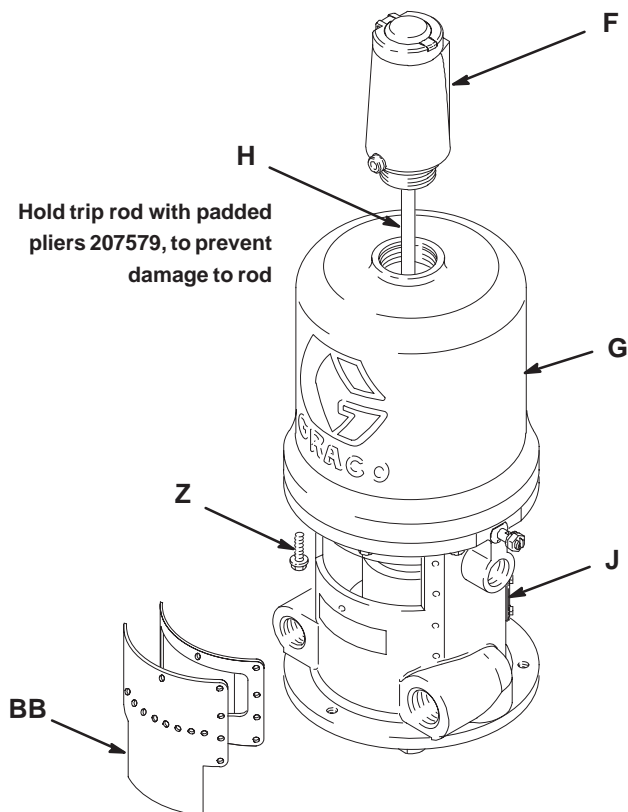

Fig. 2
To reseat the air transfer valves and restart a stalled air motor, relieve the air supply pressure to the motor by closing the bleed-type master air valve. If the air transfer valves fail to reseat, screw the stroke adjuster (F) out of the cylinder (G), pull up on the trip rod (H) and screw the cap nut back into the cylinder. See Fig. 2. Be sure the air supply pressure is less than 180 psi (1.2 MPa, 12 bar) before opening the bleed-type master air valve.
3. Manually push up on the piston rod to move the piston assembly to the top of its stroke. Unscrew the stroke adjuster (F) from the cylinder (G). Pull up on the cap nut. Grip the trip rod (H) with padded pliers 207579 and screw the stroke adjuster off the trip rod. See Fig. 2.
4. Remove the eight screws (Z) holding the cylinder (G) to the base (J). Carefully pull the cylinder *straight up* off the piston. See Fig. 2.